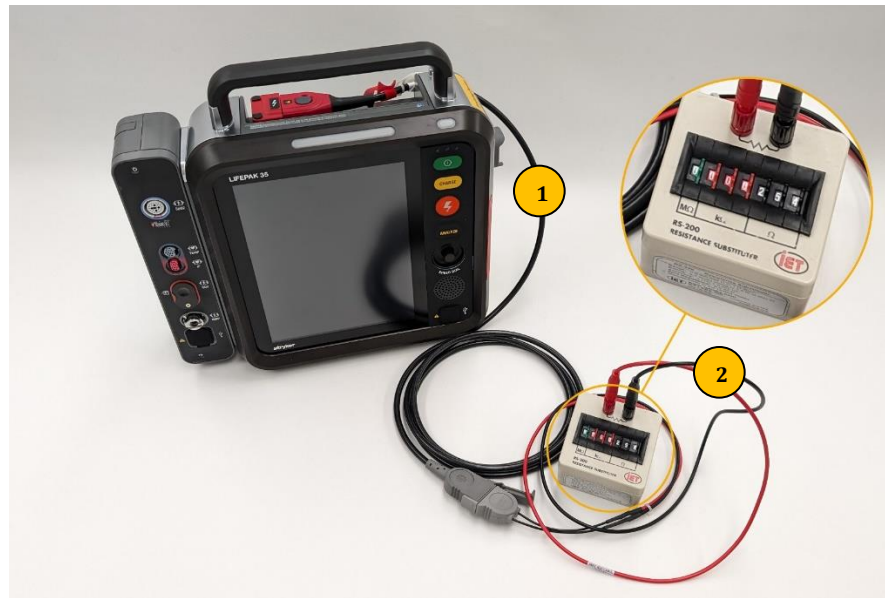

Figure 2
3. Connect the therapy test cable to the decade resistance box as shown in Figure 2:
In Figure 2